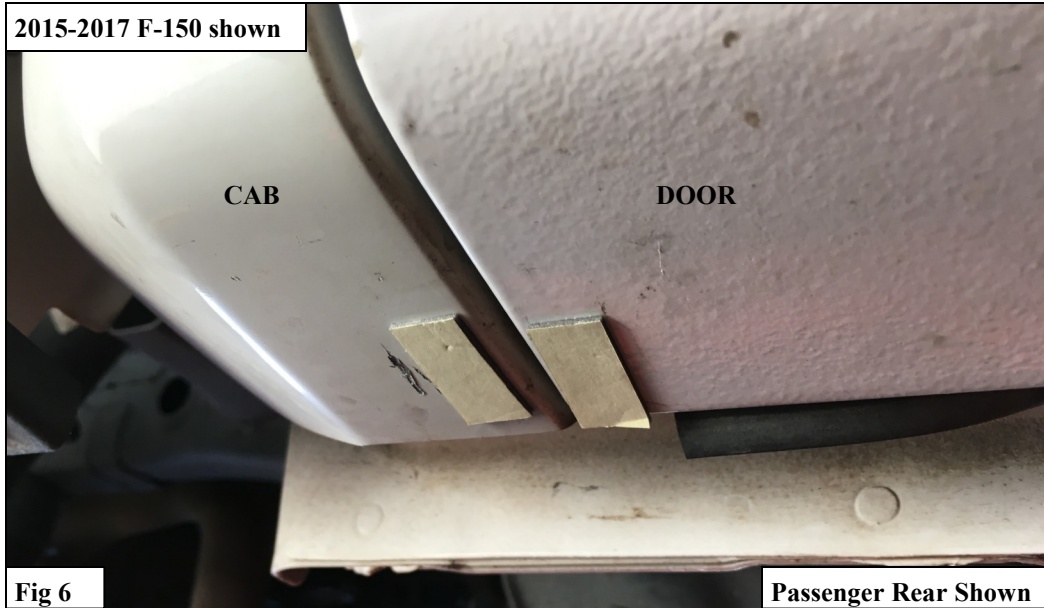

Fig 5
9. Press the End Cap Assembly onto the Inner Plastic Mount (3-4). This should be a press-in fit. **See Figure 5.** *Note– make sure the tabs on the End Cap (1-2) line up with the tabs on the Inner Plastic Mount (3-4).*